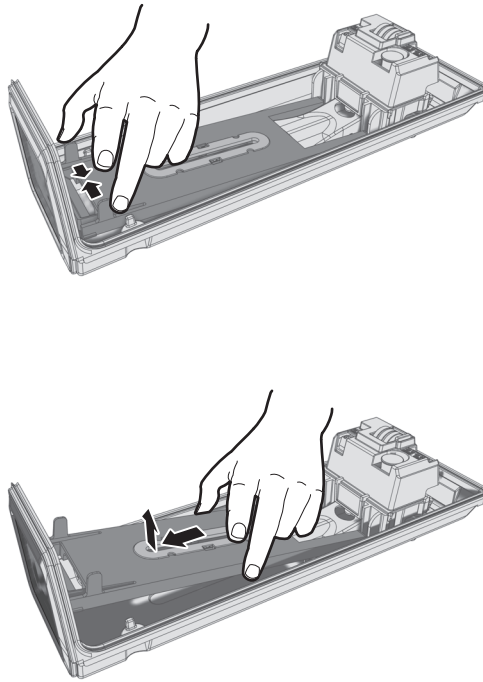

Figure 3. Removing the Sled
3. Remove the camera sled from the enclosure rail (refer to Figure 3).